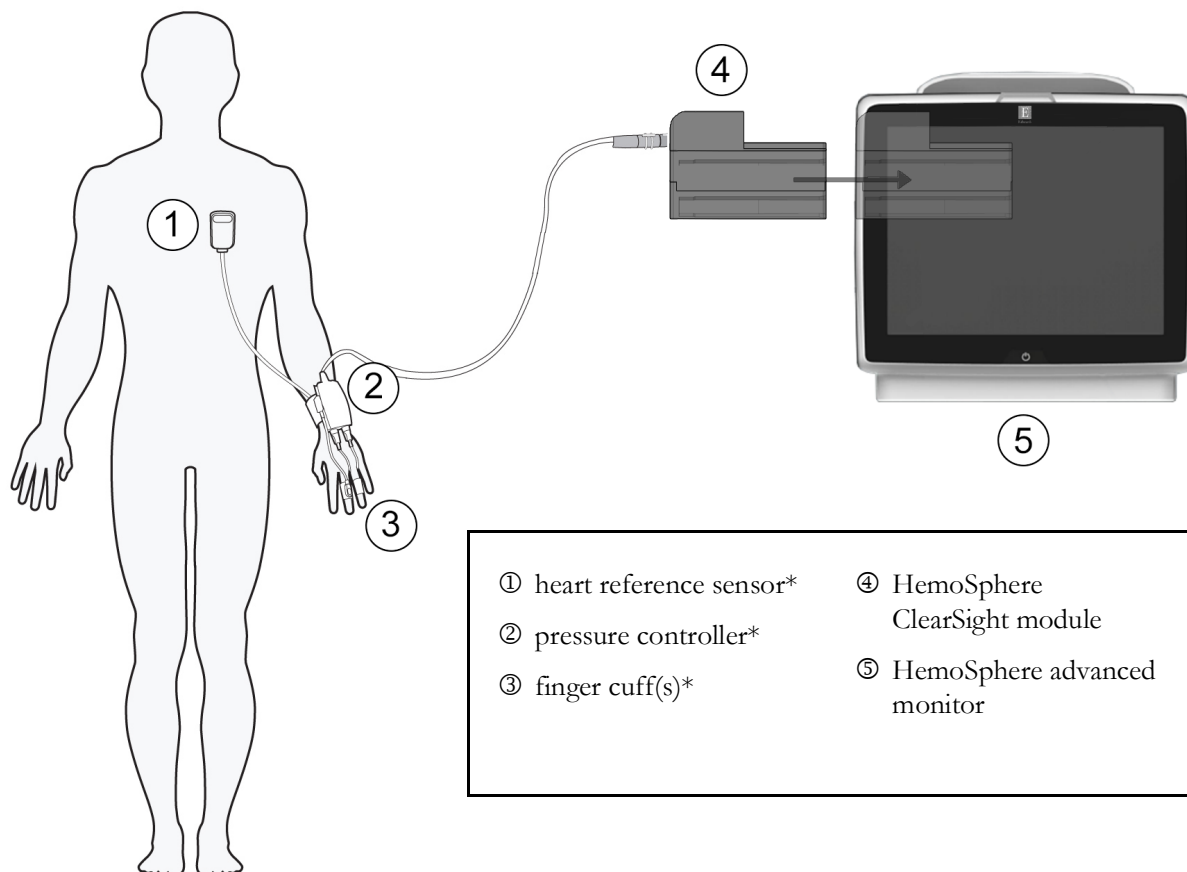

Figure 11-1 HemoSphere noninvasive system connection overview
The HemoSphere noninvasive system is composed of the HemoSphere advanced monitor with ClearSight module and connected pressure controller, heart reference sensor, and compatible Edwards finger cuff(s). See system connections in figure 11-1 on page 193. Accurate measurement of the patient's blood pressure and key hemodynamic parameters is based on the Volume Clamp method, Physiocal method and ClearSight algorithm.
The HemoSphere ClearSight module is compatible with all approved Edwards finger cuffs. See figure 11-1 for an overview of the HemoSphere noninvasive system connections.
NOTE Components indicated by * figure 11-1 legend are APPLIED PARTS as defined in IEC 60601-1 that in normal use necessarily come into physical contact with the patient for the HemoSphere noninvasive system to perform its function.
- 3 Attach the pressure controller cable to the HemoSphere ClearSight module. (figure 11-1)